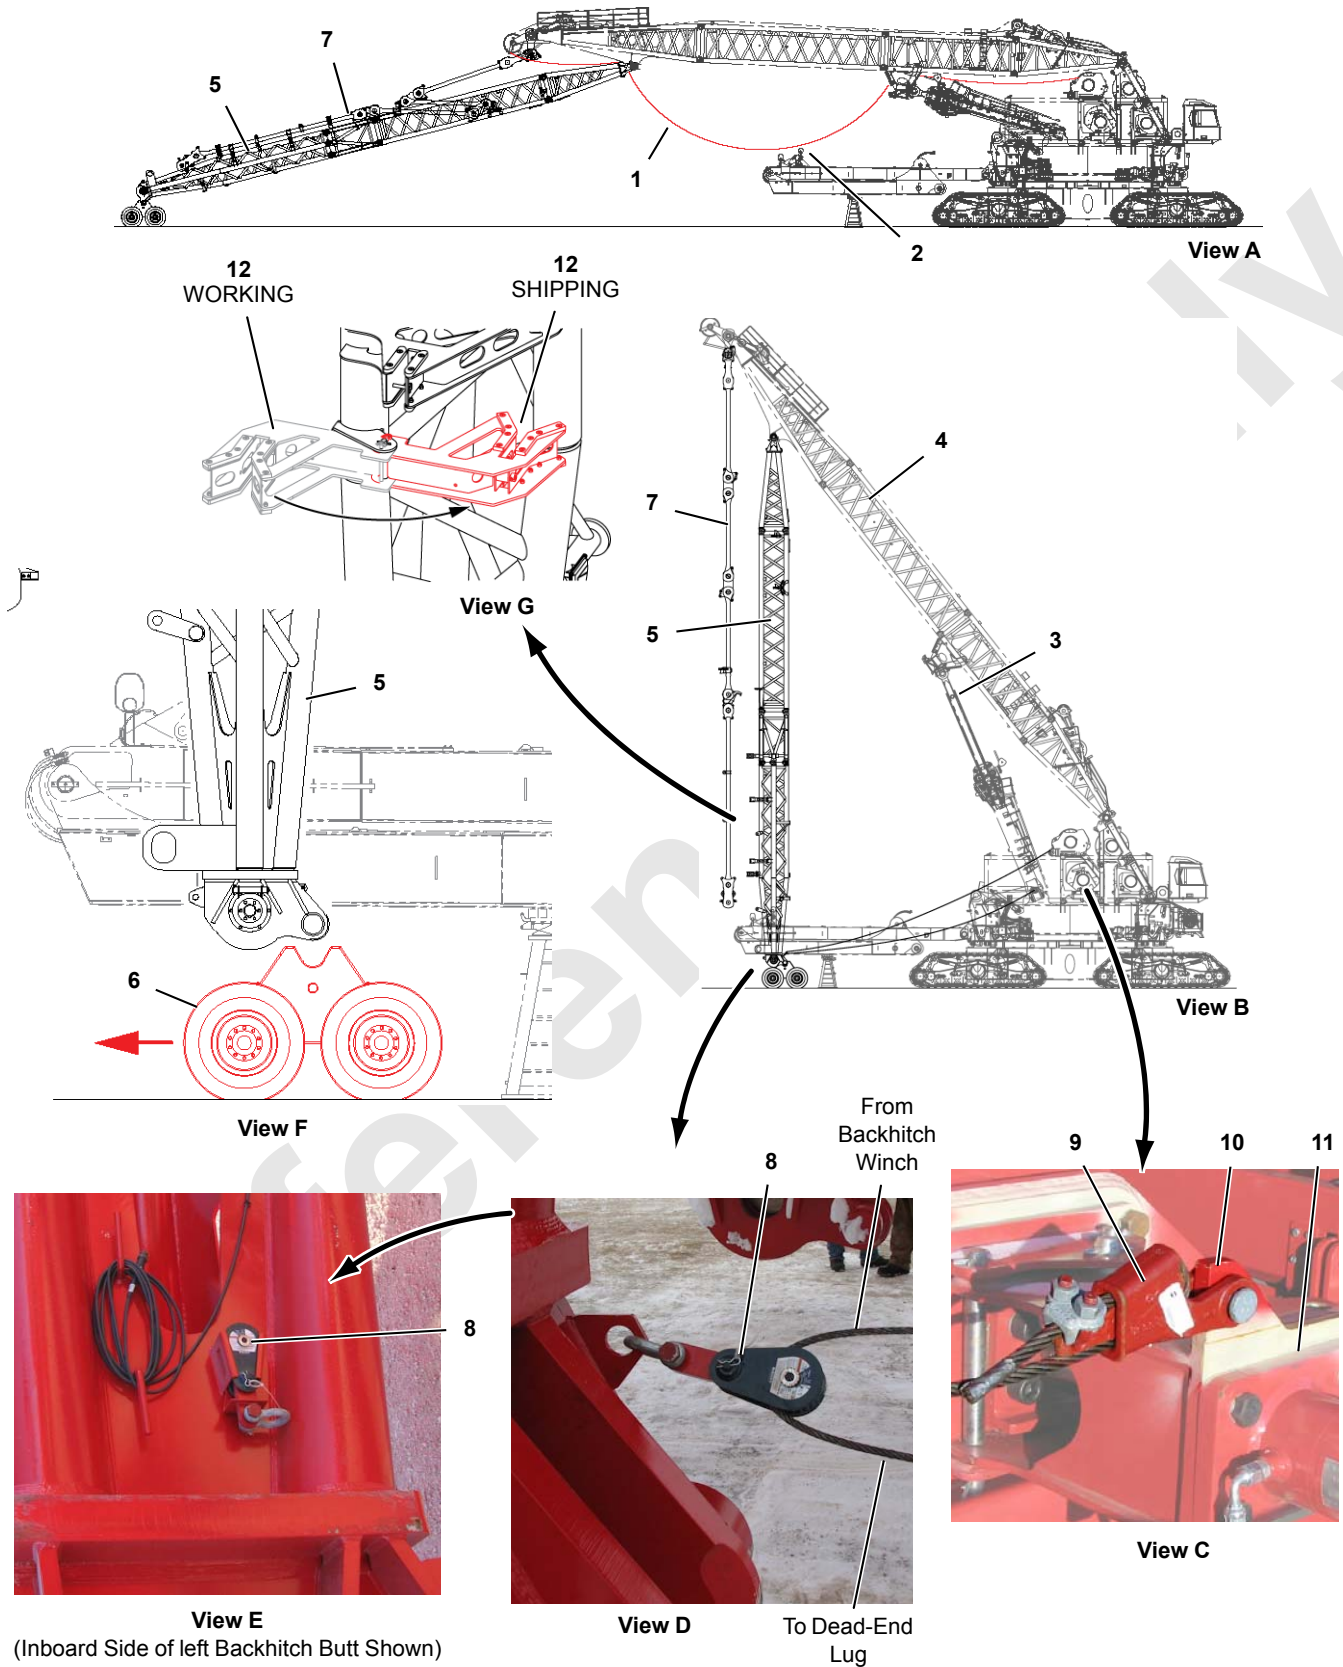

Figure 4-101
Legend for Figure 4-101
See Figure 4-101 for the following steps.
18. Continue raising the mast and hauling in the wire rope on the backhitch winches so the end of each backhitch butt (5a, View N) is over alignment saddle (12) on the rear roller carrier.
19. Connect hydraulic hoses (13, View N) from the rear roller carrier to backhitch hydraulic pins (14). The hoses can be connected one way only.
21. Slowly lower the mast (retract VPC actuator) and pay out wire rope from the backhitch winches so backhitch butts (5a, View N) come to rest in the bottom of alignment saddles (12).
24. Connect corresponding electric cable (16, View N) to each locking pin (15).
26. Disconnect snatch blocks (8, View E, Figure 4-101) from the wire rope and store the snatch blocks (View F).
28. It is not necessary to disconnect dead-end wedge sockets (9, View D, Figure 4-101).
29. Using the VPC actuator frame switch on the remote control (see page 4-119), raise VPC actuator frame (3a, View L) against VPC actuator (3).